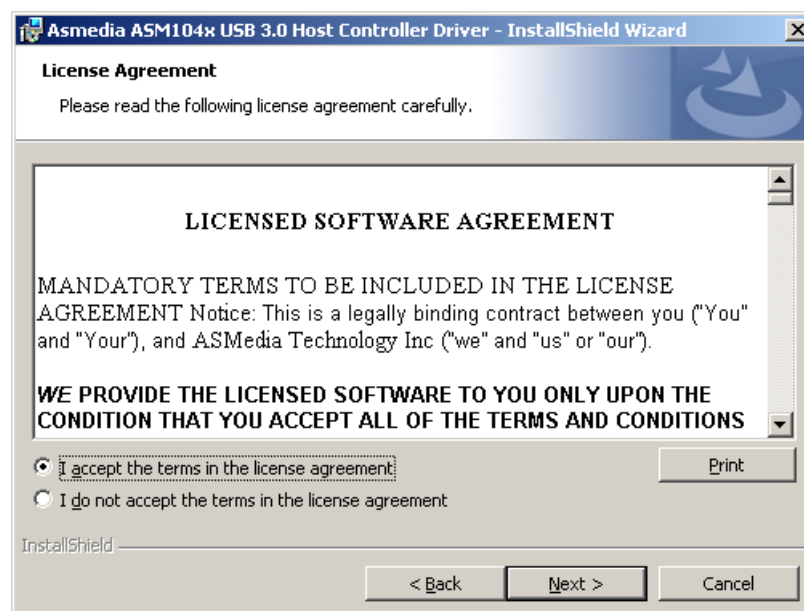

Figure 5-31: USB 3.0 Driver License Agreement
Step 6: The **License Agreement** shown in **Figure 5-31** appears.